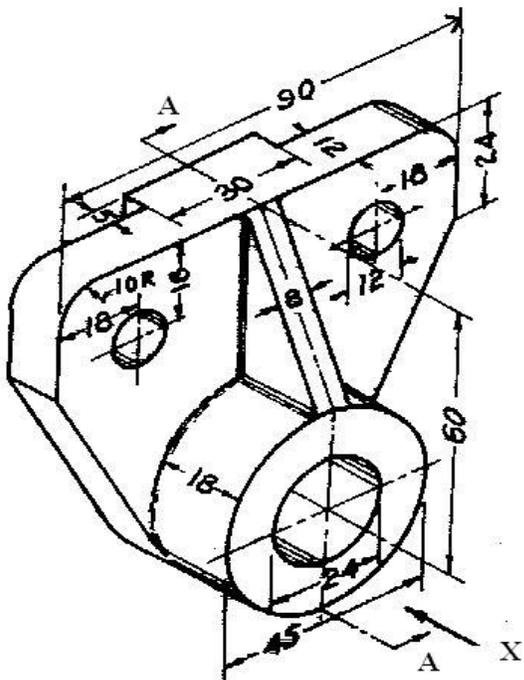

Figure-1
- Q.2** (a) Figure-1 shows pictorial drawing of an object. Draw its following views using “Third angle projection method”. Give necessary dimensions in “Aligned system”. **07**